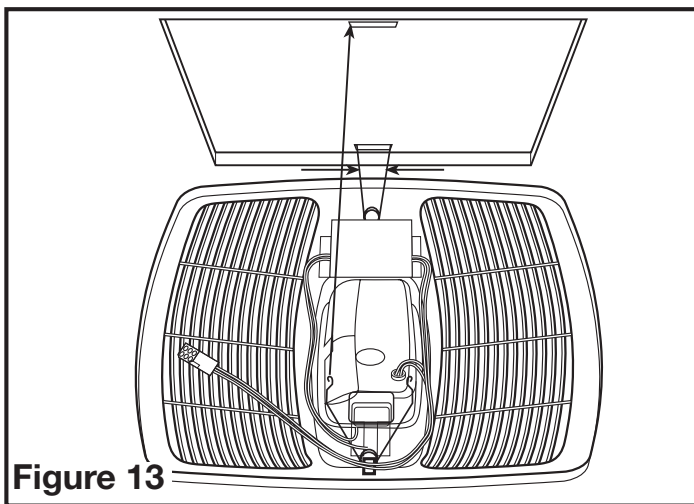

Figure 13
5. Install the grill by squeezing the springs together and installing it up into the slot furthest from the wire compartment on the fans housing. Attach the 6 pin quick connect from the grill to the 6 pin connector on the top of the wire cover. The cord will only fit one way into the receptacle. Install the other spring and push the grill up into position. (**Figure 13**).